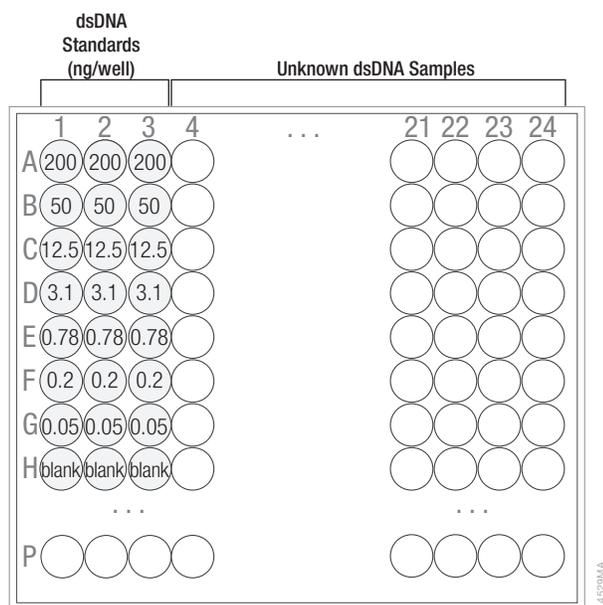

Figure 1. Example 384-well plate map with standards, blanks and unknowns labeled.
- Dispense 4µl of the dsDNA standards to wells (see Figure 1 for example plate layout). We recommend pipetting duplicates or triplicates of the standards.